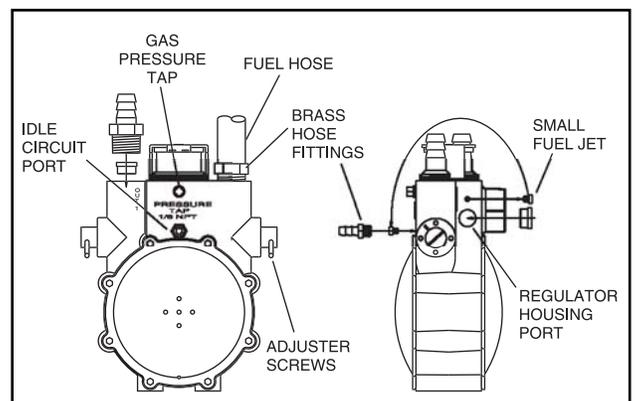

Figure 16. Air Cooled Engine Fuel System
The fuel pressure can be checked using a pressure tester kit (Generac p/n 0C7977). See Figure 16 for the gas pressure test point on the fuel regulator.
**Note:** This test is for fuel regulators equipped with idle circuit port only. See Figure 16. These units have an additional 1/4" fuel hose.